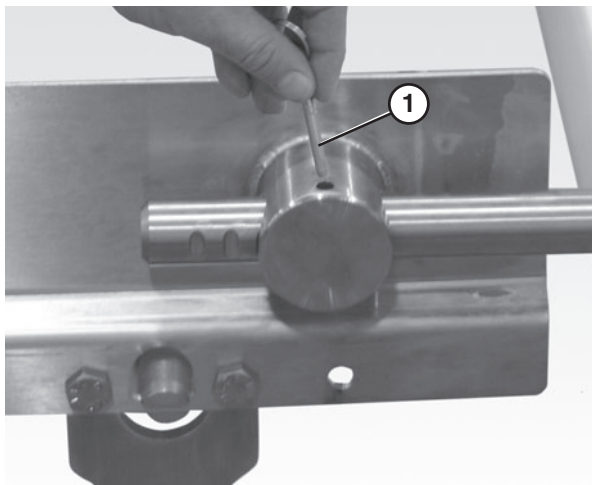

Figure 46
9. Insert the pull pins (**Figure 46, item 1**) on the tension end of the conveyor.